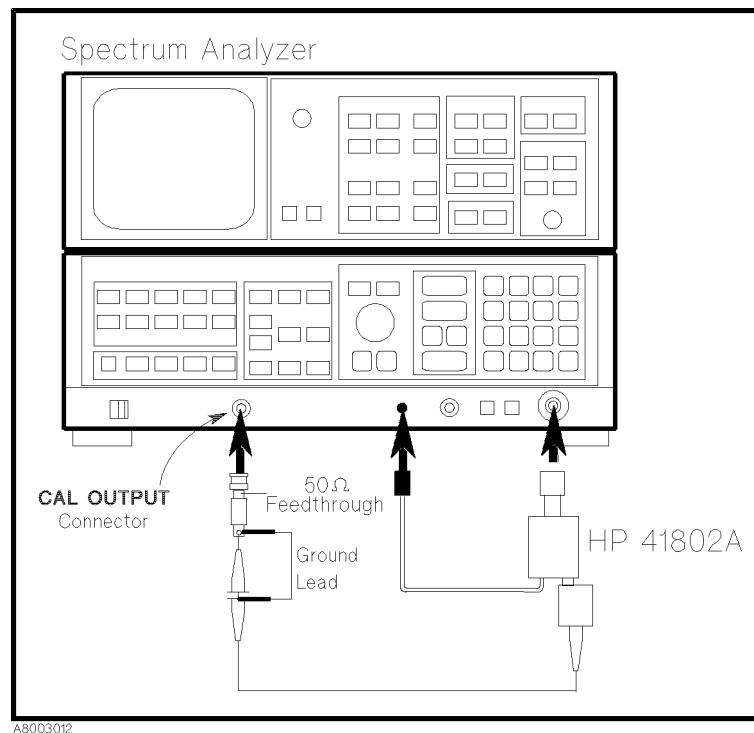

Figure 3-7. Probe Adjustment Setup Using Spectrum Analyzer
1. Connect the equipment as shown in Figure 3-7. Note that the probe power plug must be connected before the HP 41802A's N-type connector. Connect the ground lead firmly to provide good electrical bond.